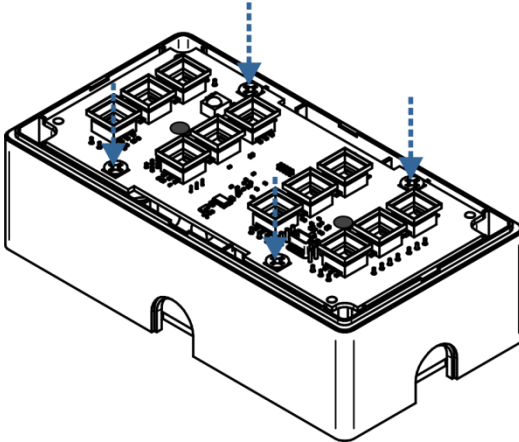

Figure 7: Securing the RC-76M/RC-712M
3. Secure the unit to the housing by screwing the four 3.5x10 conical Philips screws (supplied with the unit) into their 4 designated holes (see Figure 7).